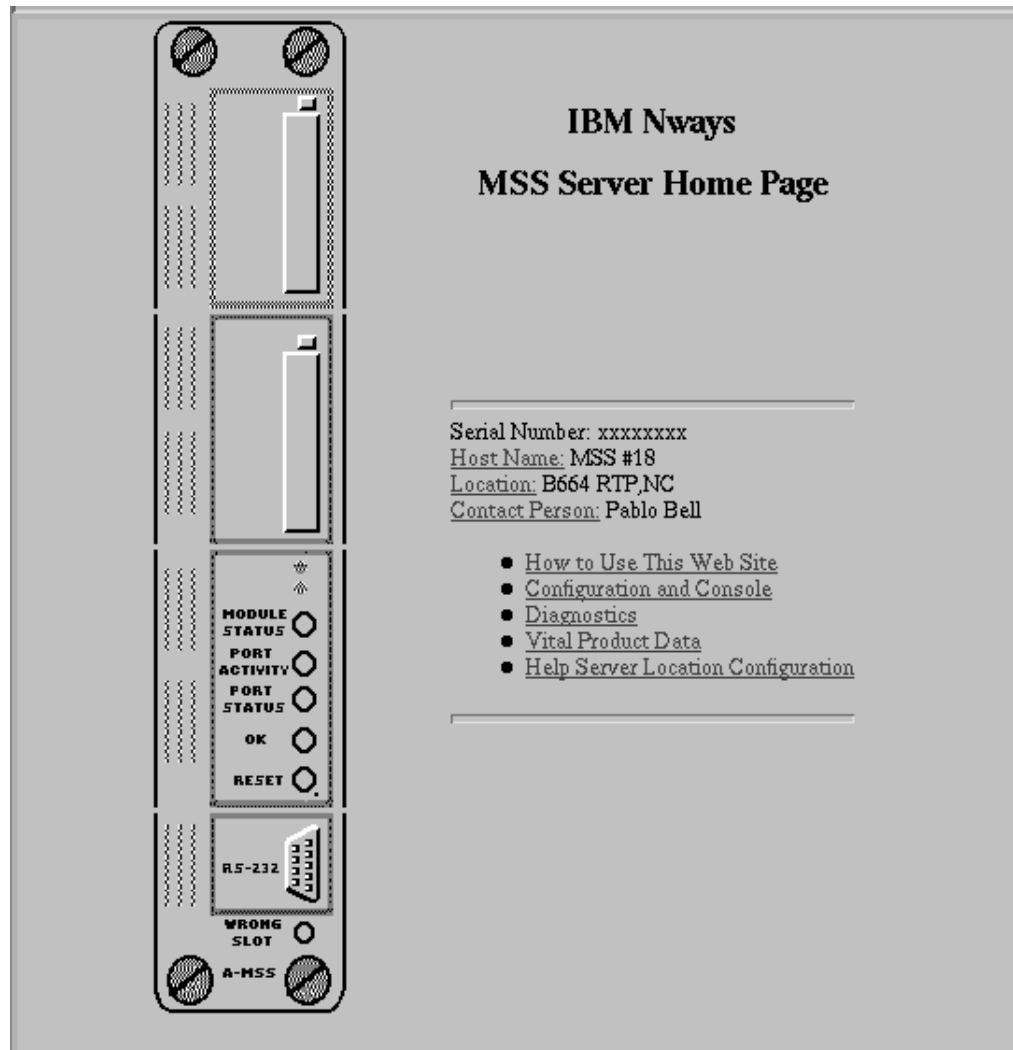

Figure 5-1. MSS Server Home Page
- 2** Open your Web browser and give it the SLIP or IP address of the MSS Server. The MSS Server Home Page appears (Figure 5-1 on page 5-3).